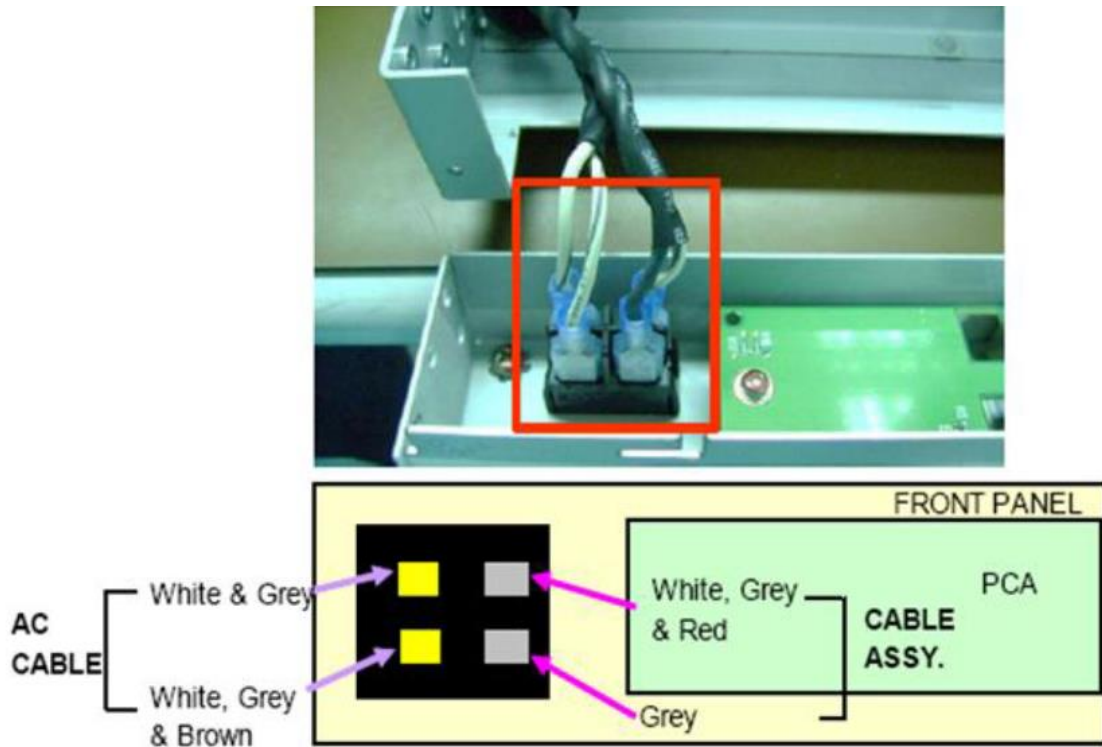

Figure 18
19. Insert the AC line cable and cable ASSY to the front panel as shown in Figure 18.